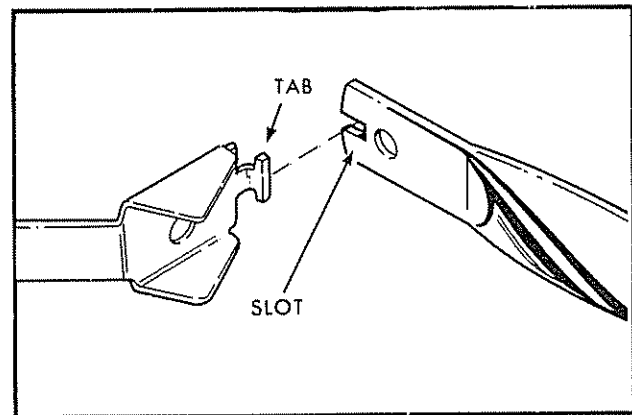

FIG 4
- d. Turn handle over, position handle levers in place (See Fig. 4).